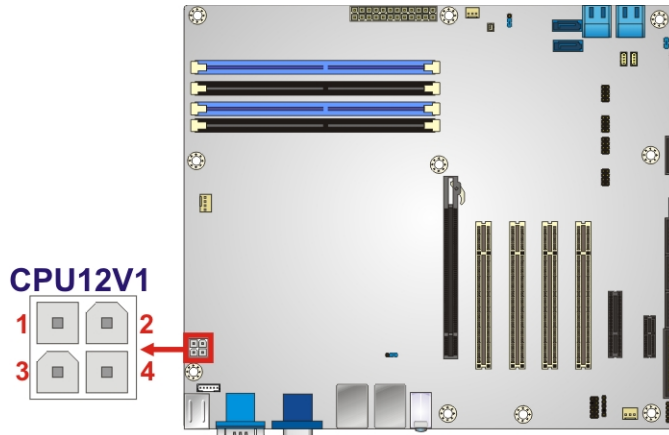

Figure 3-4: CPU Power Connector Location
- CN Location:** See **Figure 3-4**